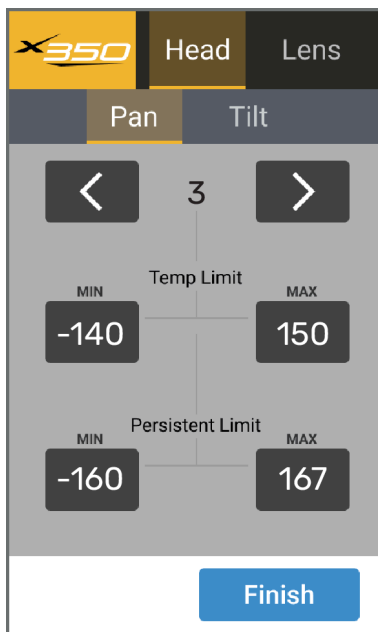

Figure 4.31 — Controls for the Pan Axis
1. Operate the axis for which you want to set a limit, moving it to the position you want to record as the limit. Figure 4.31 shows controls for the **Pan** axis.